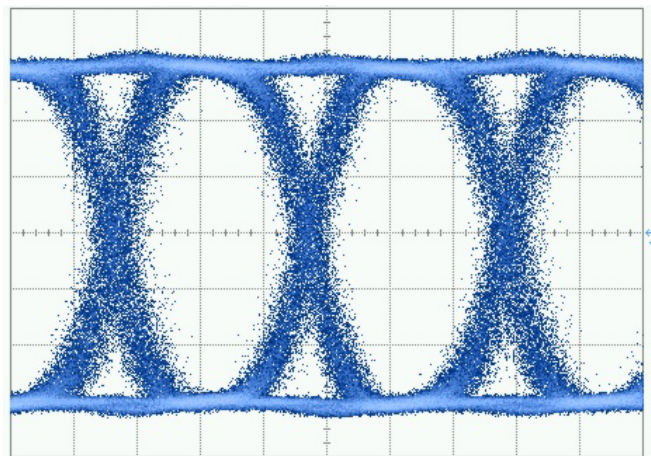

Figure 43. Random jittered eye pattern example
5. Press the softkey corresponding to the **SEL** label to accept the entry and return to the **Data Output Menu**. A random jittered eye pattern should now be displayed on the high speed sampling scope similar to the one shown in **Figure 43**.